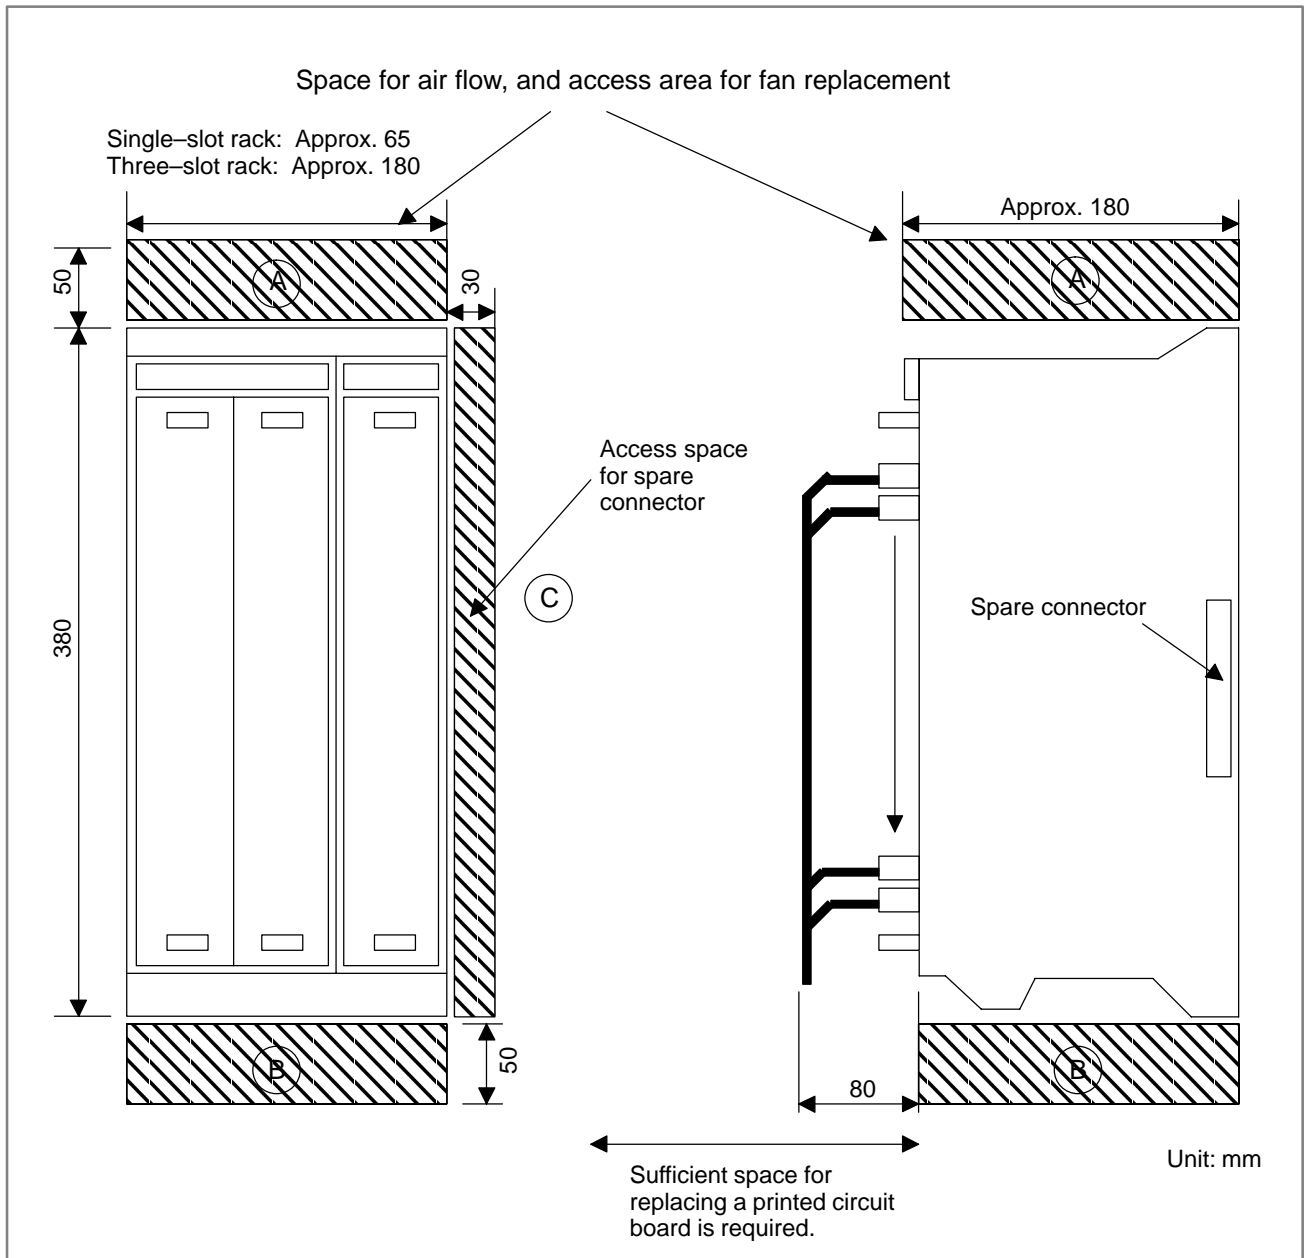

Fig. 3.6.2
The spaces shown in Fig. 3.6.2 (areas (A) and (B)) are always required to ensure smooth air flow.